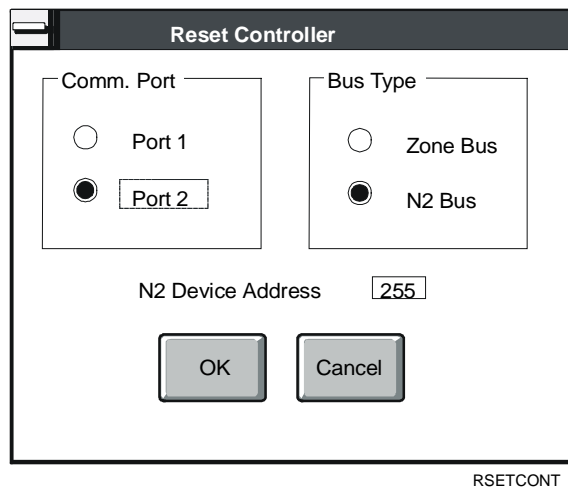

Figure 5-13: Reset Controller Dialog Box
1. On the Action menu, click Reset Controller. The Reset Controller dialog box displays (Figure 5-13).